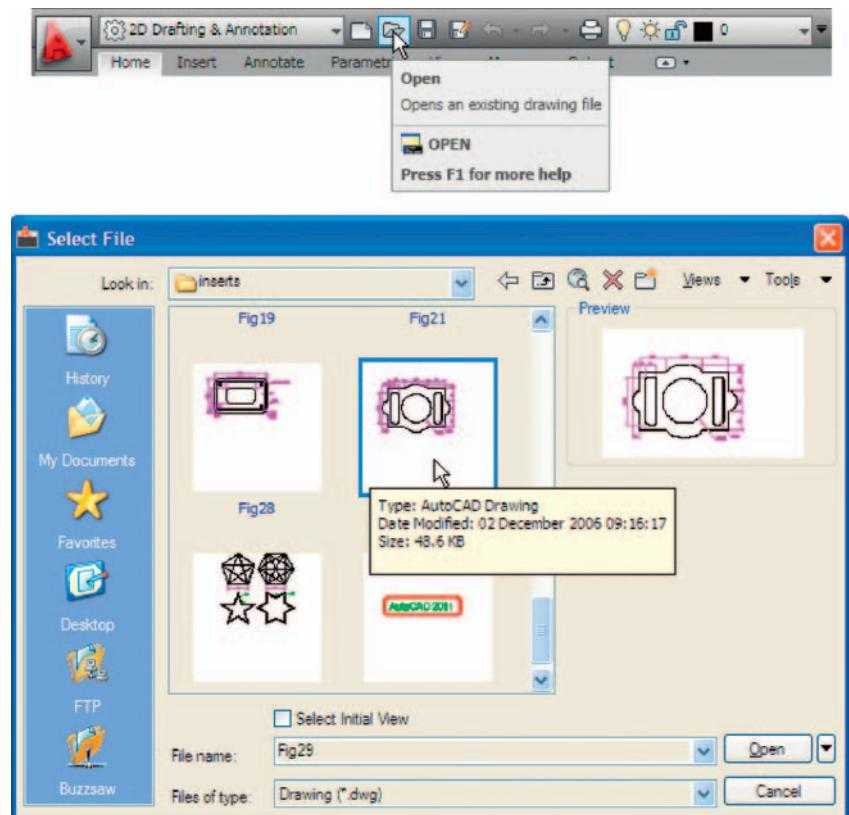

Fig. 1.9 The open icon in the **Quick Access** toolbar brings the **Select File** dialog on screen
**Quick Access toolbar:** The toolbar at the top right of the AutoCAD window holds several icons, one of which is the **Open** tool icon. A *click* on the icon opens the **Select File** dialog (Fig. 1.9).